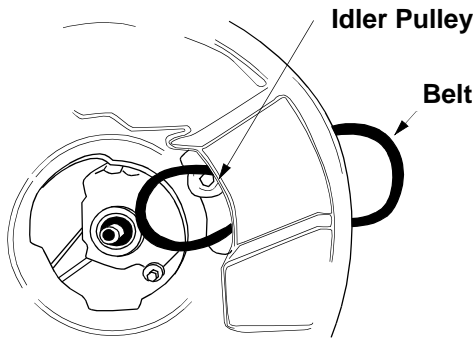

Figure 18
9. Push the idler pulley up and out of the way. See Figure 18.